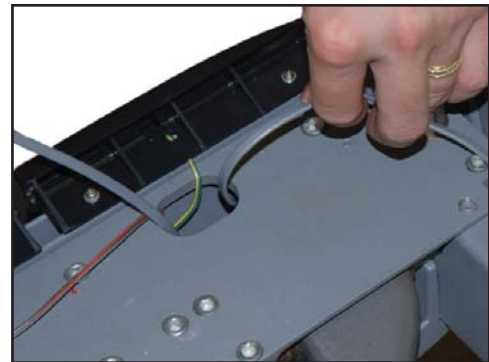

FIGURE 6.49
3. Using a #2 Phillips Screwdriver, remove the four Screws securing the Harness Covers on each end of the table. Refer to **Figure 6.49**.